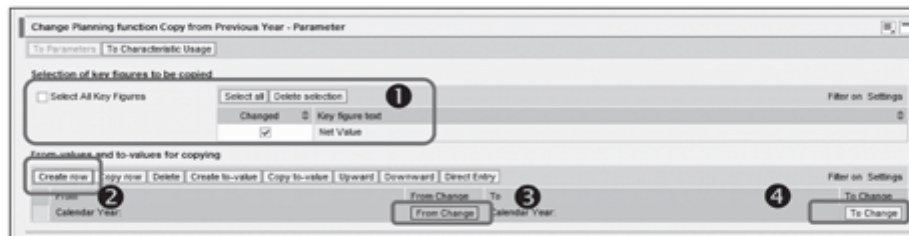
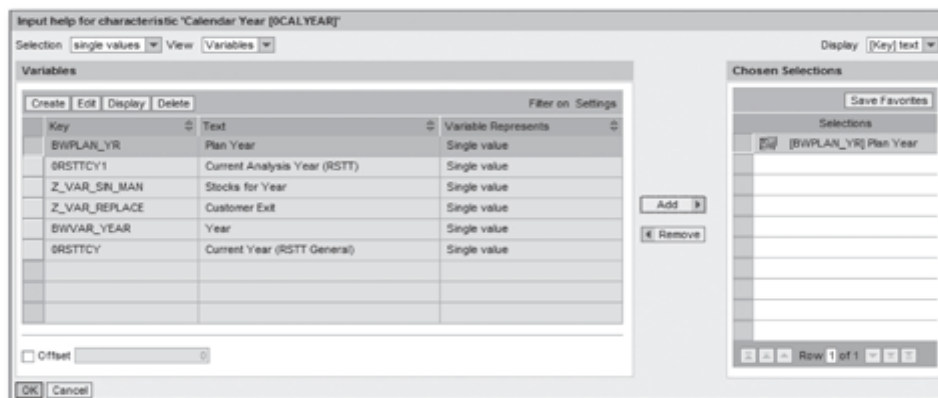

Figure 12.50 Define Parameters for Copy Function
Figure 12.52 Define To Values for Copy Function
3. On the Parameter screen, first select the key figures that need to be copied. For our example, select Net Value (BW_VAL), as shown in ❶ of Figure 12.50.
- Similarly, restrict the To values for the Copy function by clicking on **To Change** (❹ of Figure 12.50, earlier in this chapter). Select **PLAN YEAR** without offset, as shown in Figure 12.52.